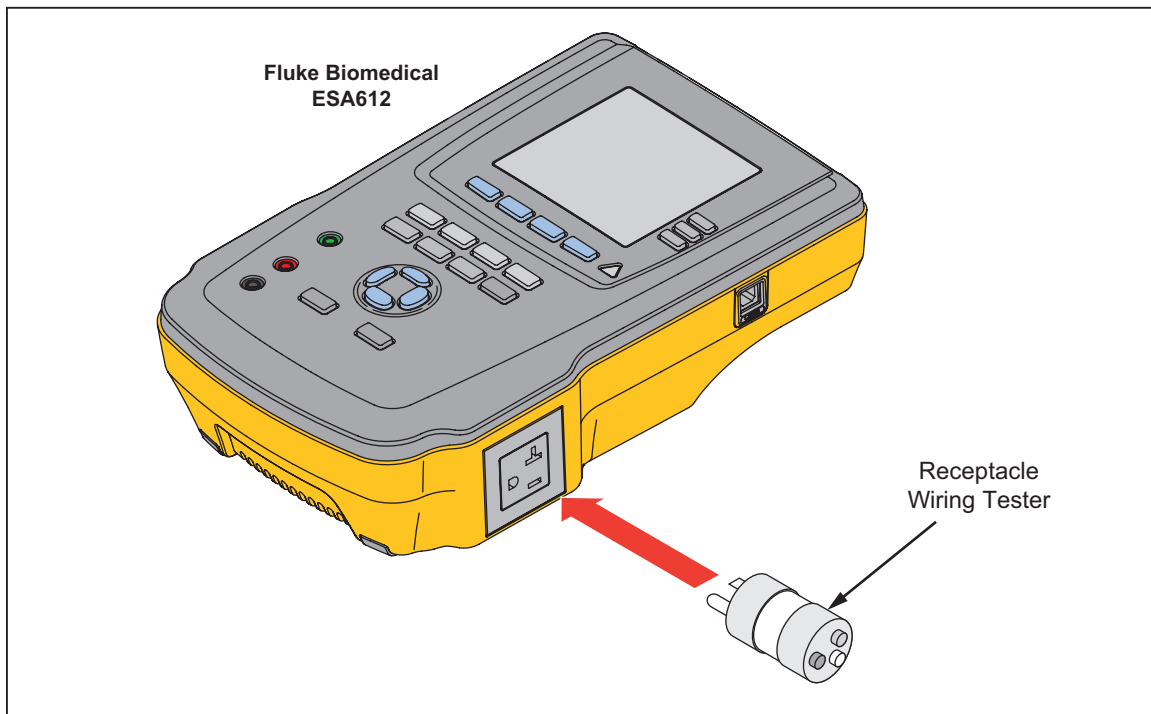

Figure 3-1. Electrical Equipment Outlet Polarity Test
1. Connect the receptacle wiring tester to the equipment outlet (EO) as shown in Figure 3-1.